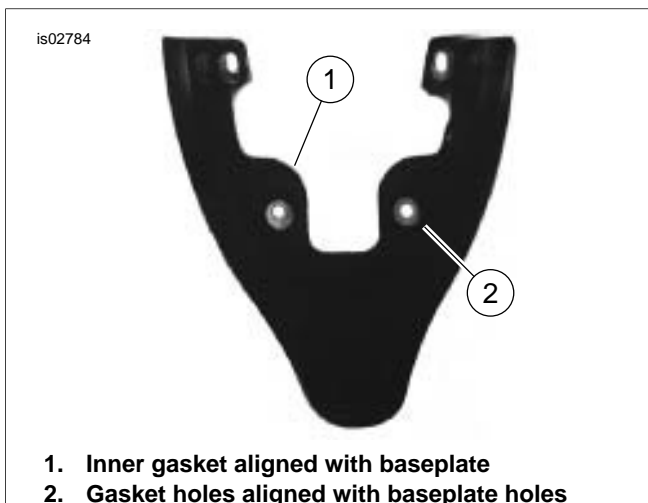

Figure 5. Install Gasket to Baseplate
9. See Figure 5. Remove the paper backing covering the gasket adhesive. Carefully align the adhesive side of gasket over the back of the baseplate and work around inner edges. Make sure gasket is aligned and adheres along the entire baseplate edges (1) as shown.